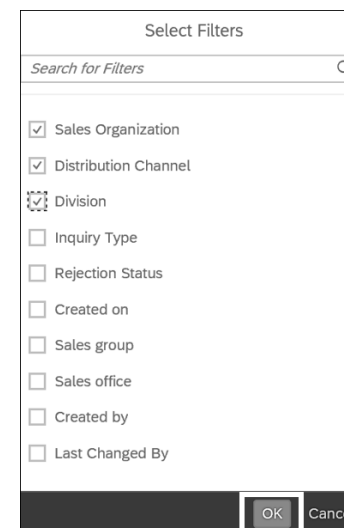

Figure 4.55 Select Filters: Options
1. After clicking on the Adapt Filters button, click on the **More Filters** button at the bottom of the screen. This then opens the **Select Filters** dialog box, as shown in Figure 4.55.